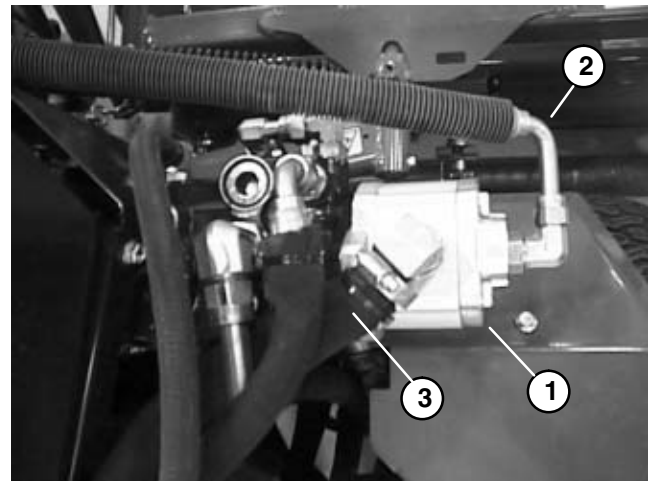

Figure 25
4. Clean hose connection and reel gear pump. Disconnect hose connection on the reel gear pump leading to port P1 on the hydraulic manifold (Fig. 25).